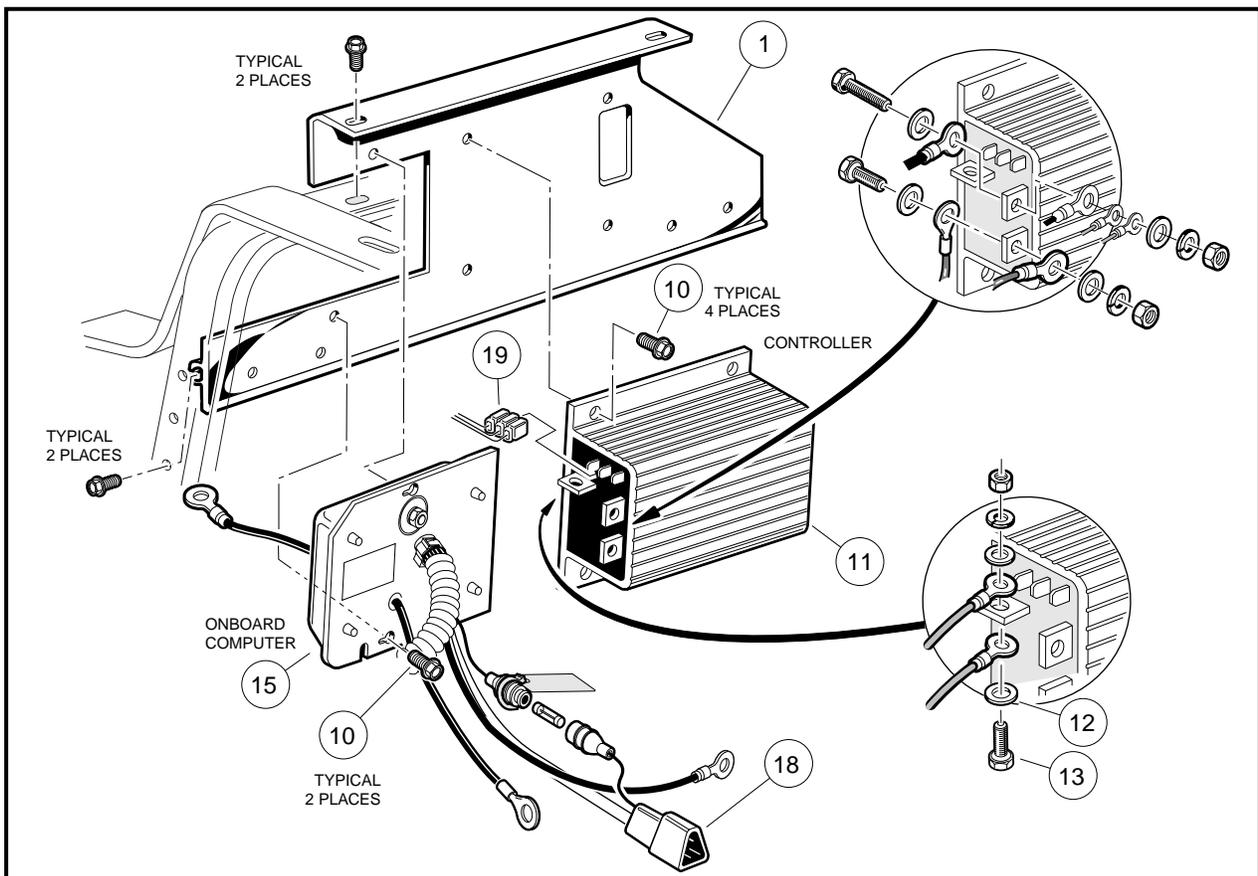
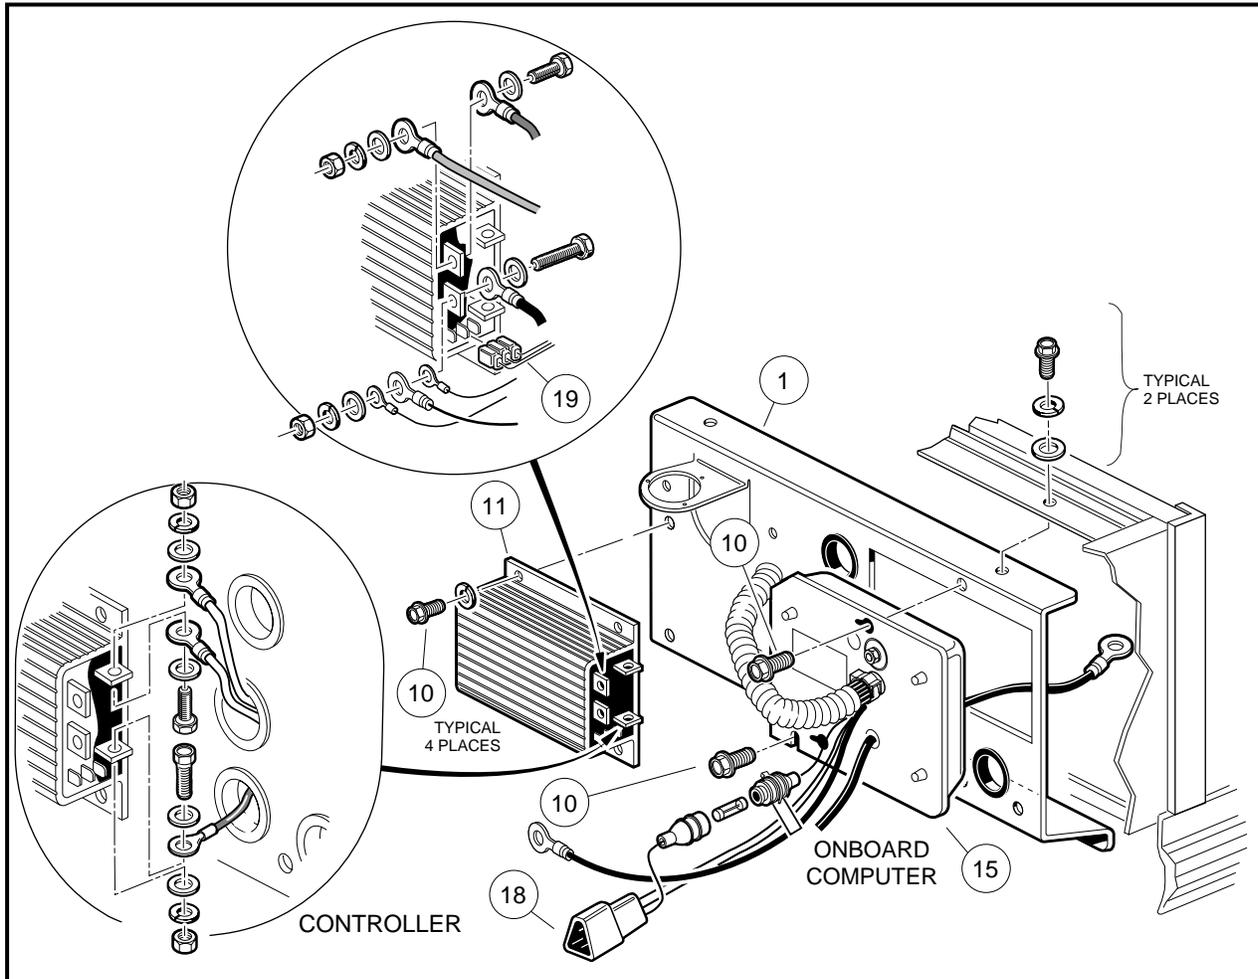

Figure 12-7 Controller and Onboard Computer - DS, Tourall and Carryall I Vehicles
Figure 12-8 Controller and Onboard Computer - Long Body Vehicles
6. Disconnect 6 and 10 gauge black wires from B- terminal of the controller (11) (**Figure 12-7, Page 12-10 or Figure 12-8, Page 12-11**).
7. Disconnect the three-pin connector (18) at the OBC (15) (**Figure 12-7, Page 12-10 or Figure 12-8, Page 12-11**).
8. Loosen, but do not remove, two 1/4 thread rolling screws (10) holding OBC to the component mounting plate (1) (**Figure 12-7, Page 12-10 or Figure 12-8, Page 12-11**).
3. Remove all 6 gauge wires connected to the controller (11) (**Figure 12-7, Page 12-10 or Figure 12-8, Page 12-11**).
4. Unplug the three 18 gauge wires (19) plugged into the controller (**Figure 12-7, Page 12-10 or Figure 12-8, Page 12-11**).
5. Remove the four 1/4 thread rolling screws (10) holding the controller to the mounting plate (1) (**Figure 12-7, Page 12-10 or Figure 12-8, Page 12-11**).
Install in reverse order of disassembly. Tighten 1/4 thread rolling screws (10) holding controller to mounting plate to 50 in.lb (5.6 N-m) (**Figure 12-7, Page 12-10 or Figure 12-8, Page 12-11**). Connect wires to terminals and tighten to 120 in.lb (13.6 N-m).